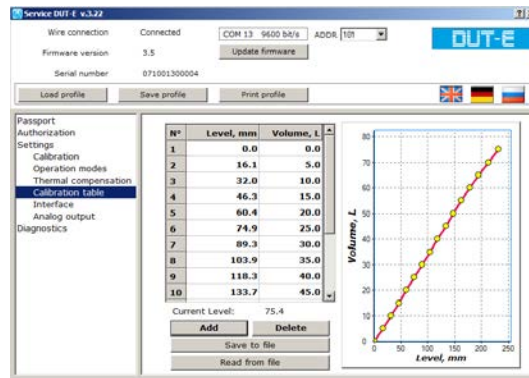

Figure 55 — Calibration table
The data is entered as a table of correspondence between measured fuel level value (Fuel level (mm) field) and fuel volume in the tank (Volume (L) field). Recommended number of table entries is 15. Max possible is 30 entries (see Figure 55).